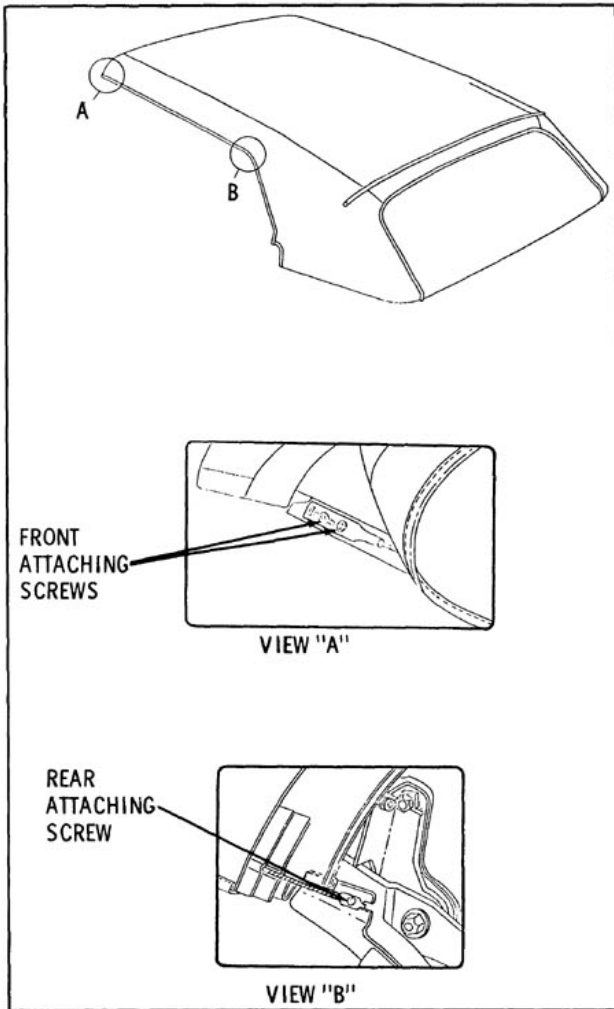

Fig. 16-126 Hold-Down Cable Attachment lift trim assembly with attached quarter and rear trim sticks on top of rear compartment front panel.
5. At right and left side roof front and rear rails, remove hold-down cable front and rear attaching screws. (Views "A" and "B", Fig. 16-126)
31. After cables have been filtered or pulled through hold-down pockets in top material, securely install front and rear cable attaching brackets to side roof front and rear rails. (Fig. 16-126).